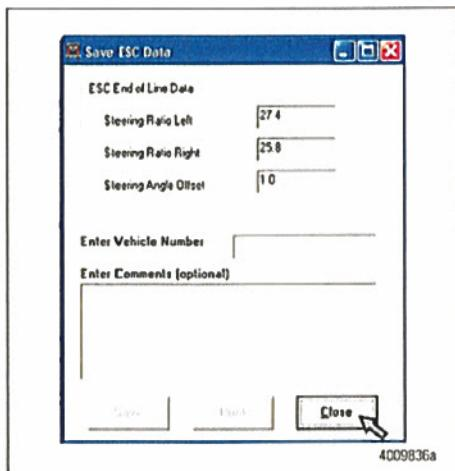

Figure 17
4. A Message box with the Steering Ratio and Steering Angle Offset values will appear. Click "Close". Figure 17.